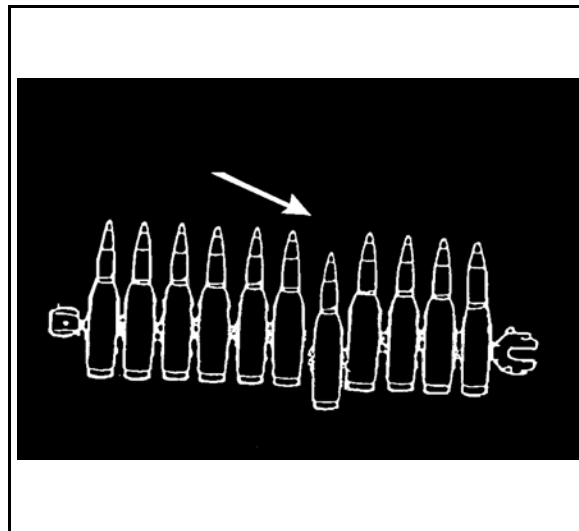

Figure 3. Misaligned round.
c. Align all rounds (Figure 3).